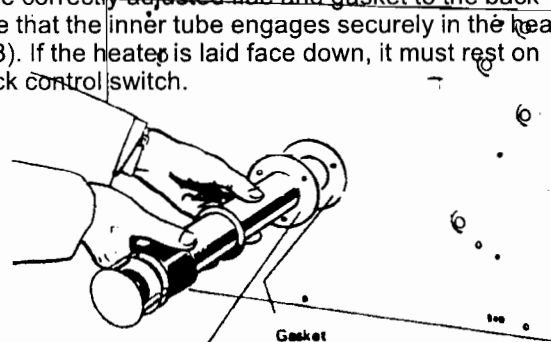

FIG. 3
3. Support the heater in a vertical position and screw the correctly adjusted flue and gasket to the back plate of the heater using the screws provided. Ensure that the inner tube engages securely in the heat exchanger without damaging the sealing tape (Fig. 3). If the heater is laid face down, it must rest on supports to prevent damage to the thermostat or clock control switch.